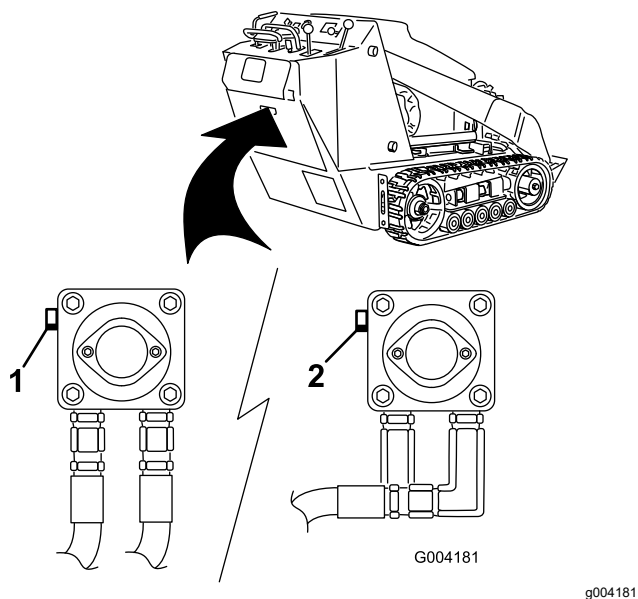

Figure 17
- Using a wrench, turn the tow valves on the hydraulic pumps twice counter-clockwise (Figure 17).